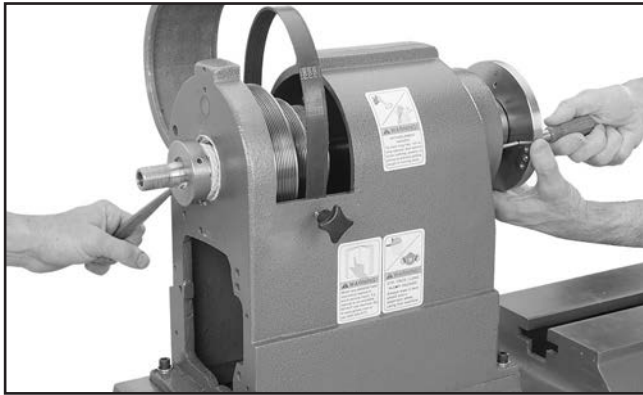

Figure 66. Seating outboard roller bearing.
19. While an assistant holds the metal rod through the faceplate to prevent the spindle from turning in the headstock, tighten the spanner nut until it is snug and seat the outboard bearing, as shown in **Figure 66**.